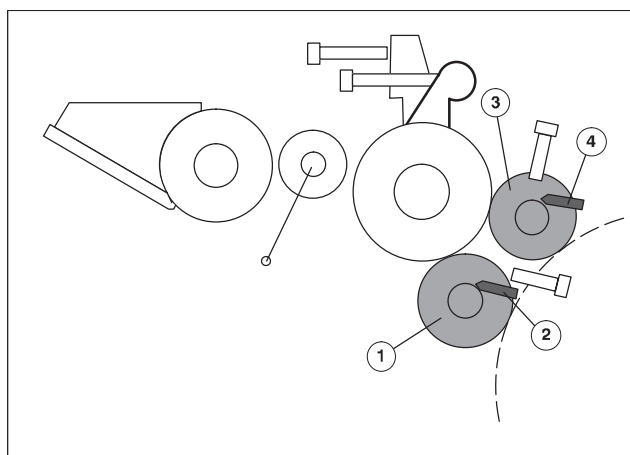

Fig. 34 Removing/installing the inking form rollers
1. Unscrew the screw (Fig. 34/4) in the bearing plate of the inking form roller on D.S. and O.S. using the 2.5 mm hex wrench.
2. Lift the inking form roller (Fig. 34/3) upwards out of the bearing.
1. Unscrew the screw (Fig. 34/2) in the bearing plate of the inking form roller on D.S. and O.S. using the 2.5 mm hex wrench.
2. Remove the inking form roller (Fig. 34/1) from the bearing in the direction of the numbering shaft.
1. Insert the inking form roller (Fig. 34/1) on D.S. and O.S. in the bearings.
2. Turn screw (Fig. 34/2) in the bearing plate of the inking form roller on D.S. and O.S. using the 2.5 mm hex wrench.
1. Insert the inking form roller (Fig. 34/3) into the bearing from above.
2. Turn screw (Fig. 34/4) in the bearing plate of the inking form roller on D.S. and O.S. using the 2.5 mm hex wrench.